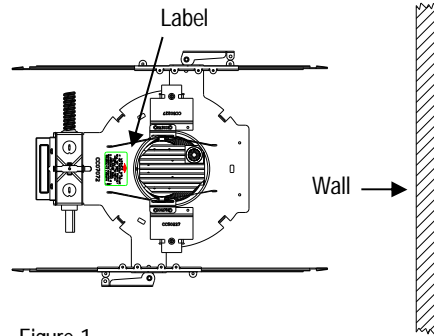
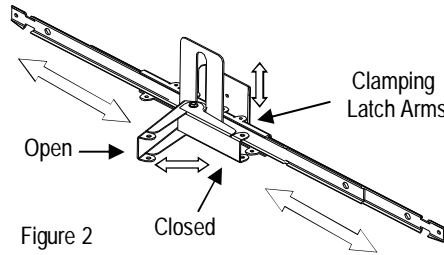
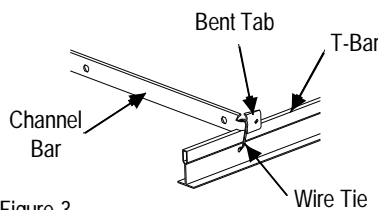

Figure 1
Figure 2
Figure 3
2. Position mounting frame through opening in ceiling. **For EVO LW and EVO WW installations, refer to label located on mounting frame for proper orientation with respect to the wall to be illuminated as shown in Figure 1.** Release clamping latch arms and adjust channel bars to the correct spacing between T-bar as shown in Figure 2. Secure channel bars to T-bar by means of wire ties, screws or by bending ends onto T-bar as shown in Figure 3.
4. If additional security is required, a No. 8 sheet metal screw, wire tie or wire (not supplied) may be used to tie the latch arm to the mounting frame as shown in Figure 2.
1. **For EVO LW and EVO WW installations, refer to label located on mounting frame for proper orientation with respect to the wall to be illuminated as shown in Figure 1.** Release clamping latch arms and adjust channel bars to the correct spacing between joists as shown in Figure 2.
4. If additional security is required, a No. 8 sheet metal screw, wire tie or wire (not supplied) may be used to tie the latch arm to the mounting frame as shown in Figure 1.